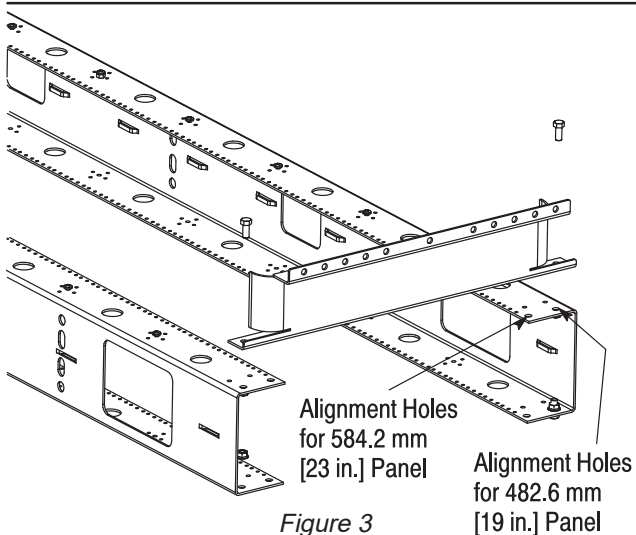

Figure 3
5. Fasten front top angle to upright using four (2) 3/8 in.-16 x 7/8 in. hex head cap screw and flange nuts. *Finger tighten.* See Figure 3.
10. Fasten rear top angle to upright using four (2) 3/8 in.-16 x 7/8 in. hex head cap screw and flange nuts. *Finger tighten.* See Figure 3.